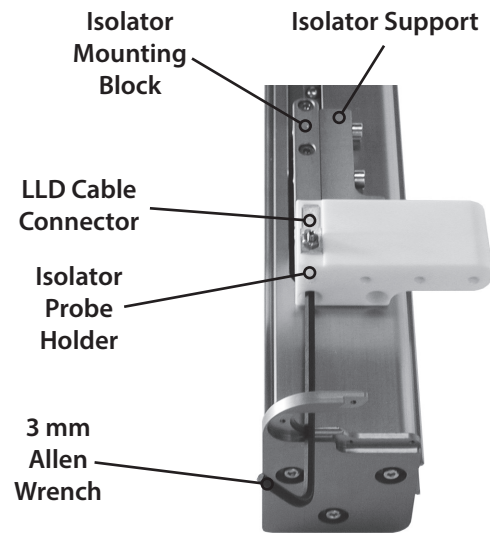

Figure 18: Installing the Isolator Mounting Block on the Z-Arm
5. Place the screw removed in step 1 up through the bottom of the isolator probe holder and into the isolator mounting block. Tighten slightly using the 3 mm Allen wrench. Refer to the steps illustrated in Figure 18.